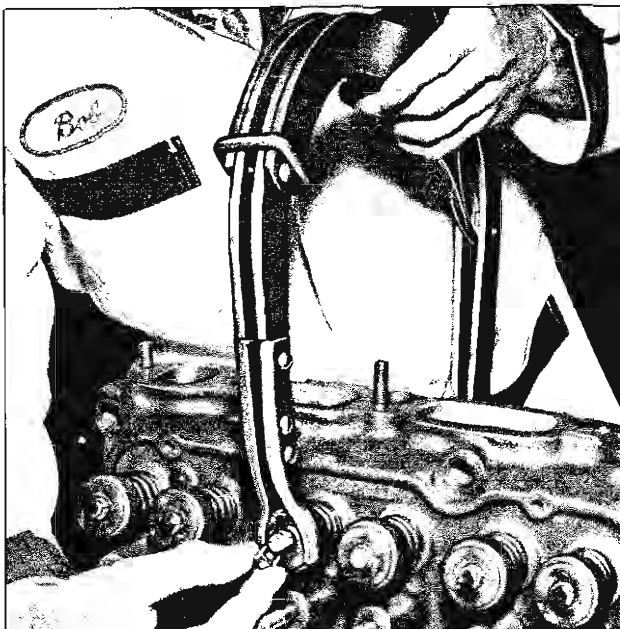

Fig. 9—Compressing Valve Springs
2. Using Tool J-8062, compress the valve spring and remove valve keys (fig. 9). Release the